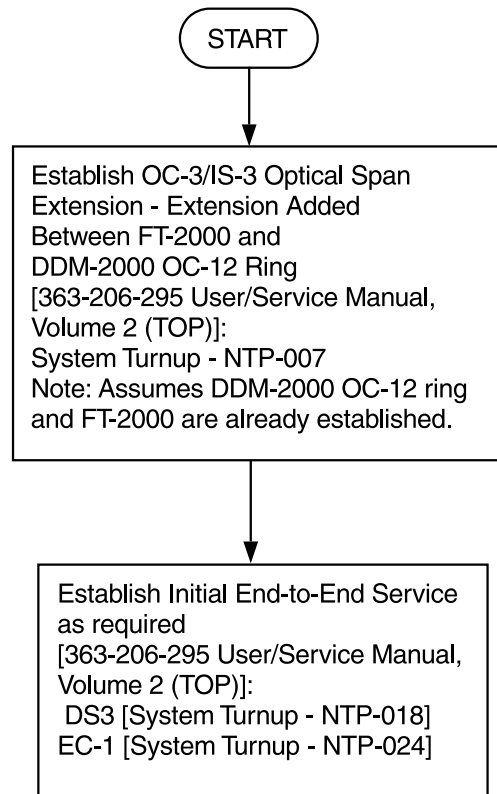

Figure 18. DDM-2000/FT-2000 Large Network Configurations — OC-3/IS-3 Optical Span Extension Between DDM-2000 OC-12 Ring and FT-2000 OC-48
- Figure 18 OC-3 Optical Extension Between FT-2000 OC-48 Ring and DDM-2000 OC-12 ring